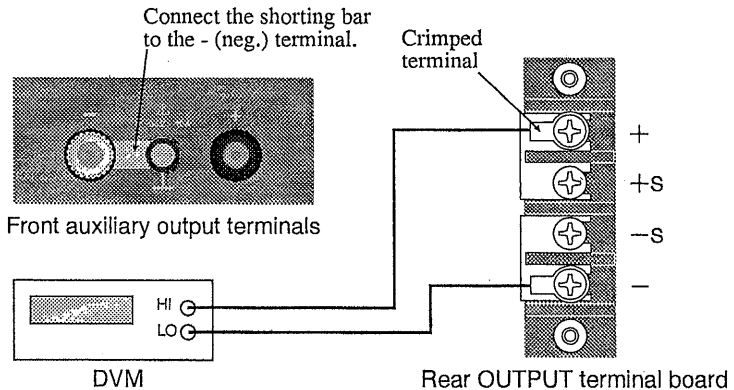

Fig. 5-1A Connection for voltage system calibration
- ① Turn off the OUTPUT switch.
- ② Turn off the POWER switch.
- ③ Connect a DVM as shown in Fig. 5-1A.